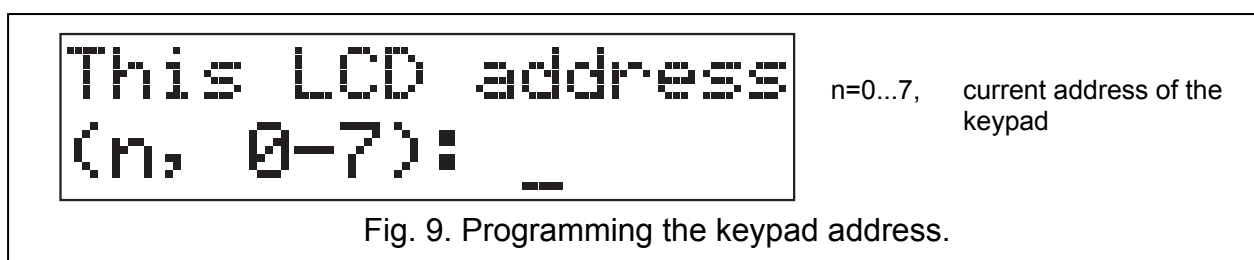

Fig. 9. Programming the keypad address.
3. The message shown in Figure 9 will appear on display of all keypads connected to the control panel.